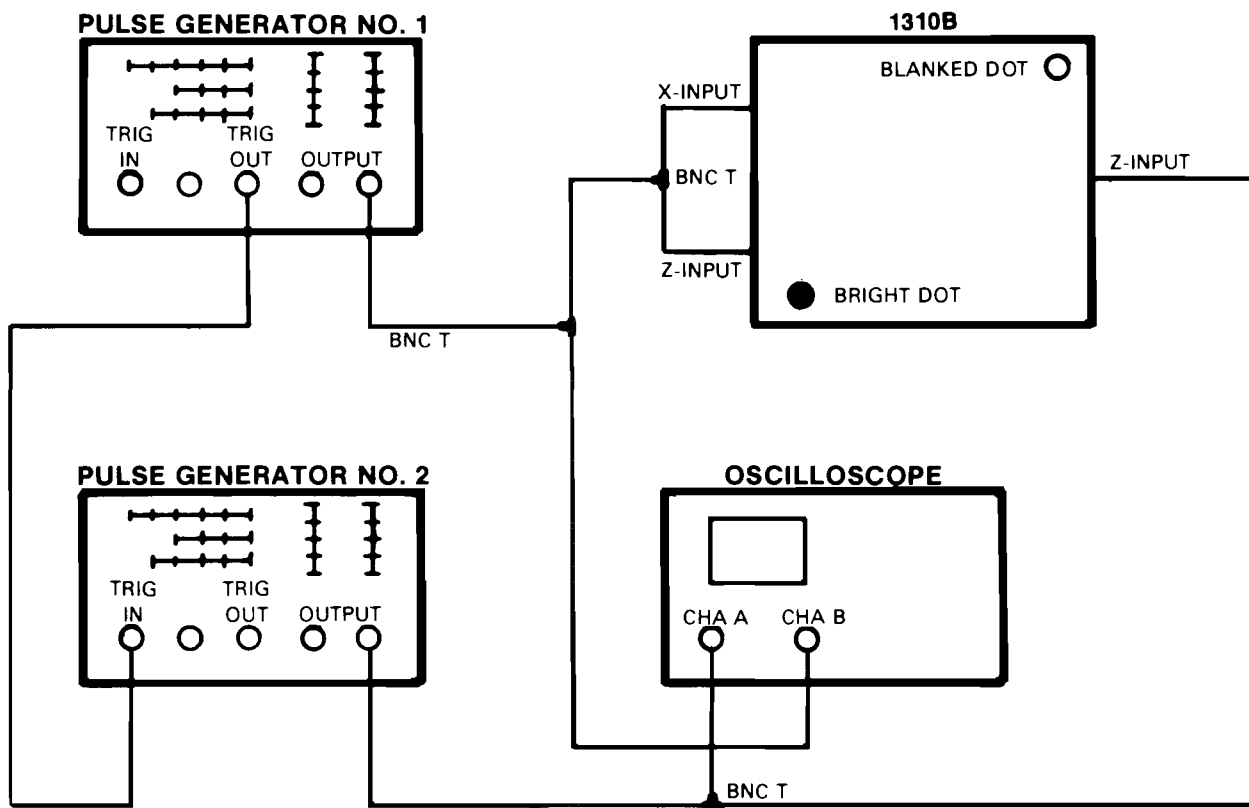

Figure 4-7. Settling Time Test Setup
- b. Connect equipment as shown in figure 4-7. Do not connect Z-INPUT at this time.
- f. Connect Z-INPUT. Adjust Display INTENSITY to view one dot only. (See figure 4-7.)